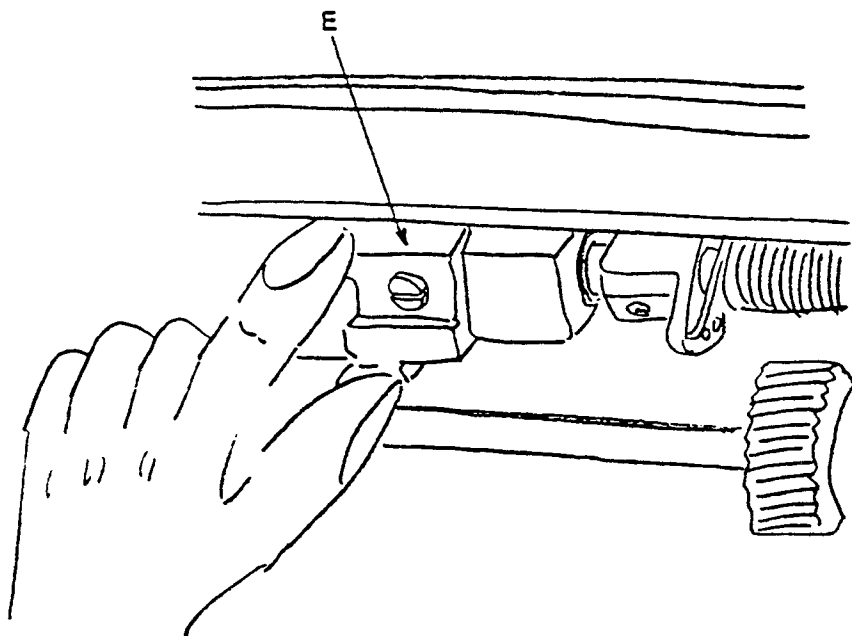

Fig. 26-2
2. Insert allen key through access hole and loosen second set screw (D) just enough to turn the feed regulator (E). (Fig. 26-2).
4. While holding feed regulator shaft crank (F) steady, in its most raised position, with an allen key turn feed regulator (E) up or down with left hand to achieve zero feed motion.
5. When there is no feed motion, tighten set screw (D) and then set screw (C).